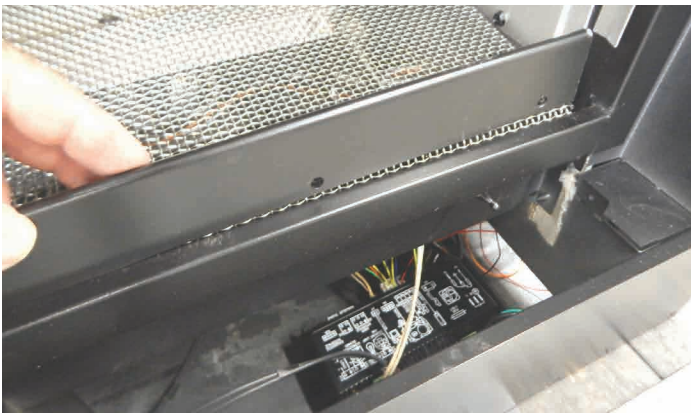

Figure 1
4. Remove the Front Glass Retainer by simply lifting upward and set aside. **See Figure 1.**
26. Replace the Front Glass Retainer. See Figure 1